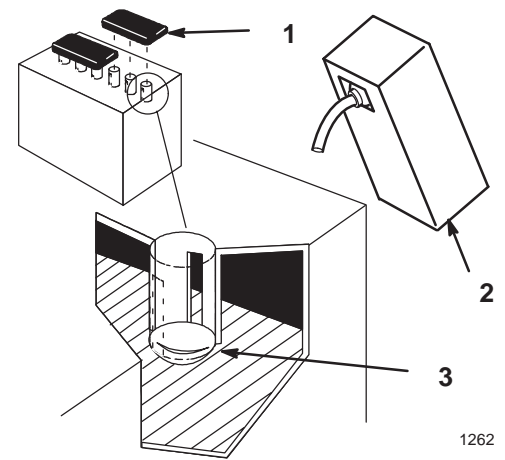

Figure 3
2. Remove the filler caps from the battery. Slowly pour electrolyte into each cell until the electrolyte level is up to the lower part of the tube (Fig. 3).
- Slowly pour electrolyte into each cell until the level is up to the lower part of the tube (Fig. 3) and install the covers.